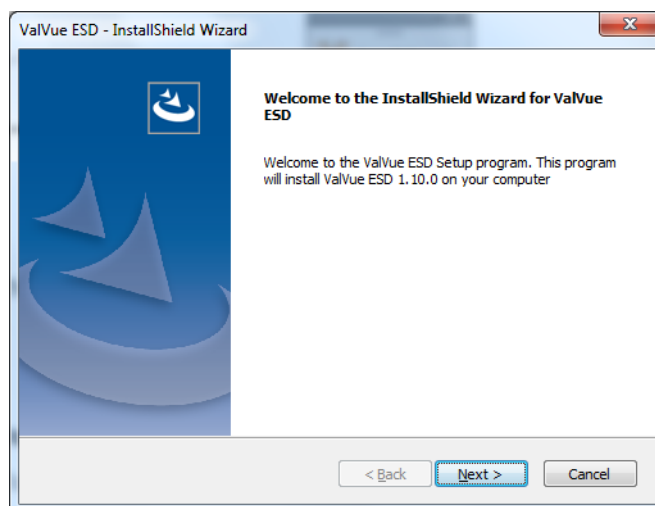

Figure 4 - Welcome Screen
1. Right-click on the downloaded .exe and select **Run as Administrator**. *Figure 4* appears.